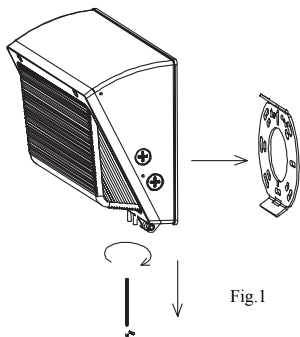

Fig.1
1. First use the allen wrench to unscrew the two starting screws on the bottom side to a position where the wall-mounting plate can be taken out. (The two screws do not need to be completely unscrewed), take out the wall-mounting plate. (see fig 1)